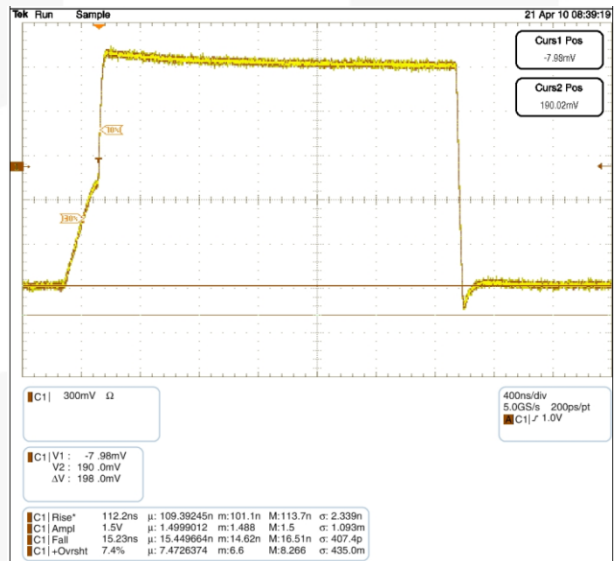

Figure 5. Waveform C: 600pF, Total  $R_{PU}$ : 2.2K $\Omega$
Due to I2C's open-drain topology, I2C masters and slaves are not push/pull drivers. Logic LOWs are "pulled down" ( $I_{sink}$ ), while logic HIGHs are "let go" (3-state). For example, when the master lets go of SCL (SCL always comes from the master), the rise time of SCL is largely determined by the RC time constant, where  $R = R_{PU}$  and  $C =$  the bus capacitance. If the FXMAR2102 is attached to the master [on the A port] and there is a slave on the B port, the Npassgates act as a low-resistive short between both ports until either of the port's  $V_{CC}/2$  thresholds are reached. After the RC time constant has reached the  $V_{CC}/2$  threshold of either port, the port's edge detector triggers both dynamic drivers to drive their respective ports in the LOW-to-HIGH (LH) direction, accelerating the rising edge. The resulting rise time resembles the scope shot in Figure 5. Effectively, two distinct slew rates appear in rise time. The first slew rate (slower) is the RC time constant of the bus. The second slew rate (much faster) is the dynamic driver accelerating the edge.